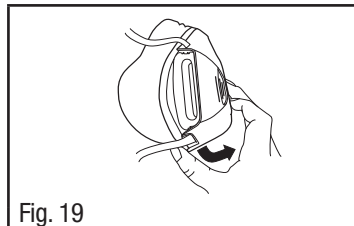

Fig. 19
1. Remove head harness assembly by pulling down and outward on the bottom of the head harness assembly until it clears the bottom of the facepiece (Fig. 19).